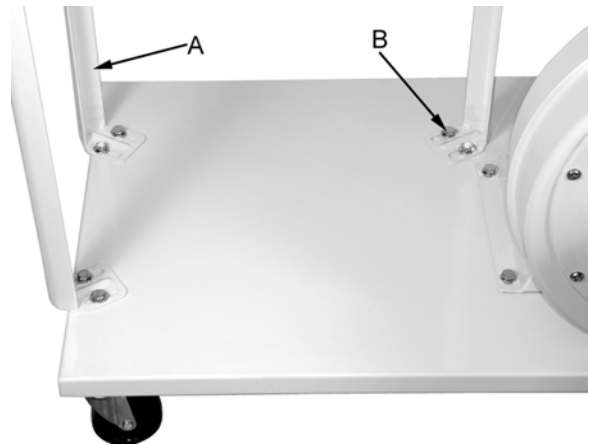

Figure 4
5. Attach three support brackets (A, Fig. 4) to the base using six M8 x 16 hex cap bolts and six M8 flat washers (B, Fig. 4). Hand-tighten only at this time.